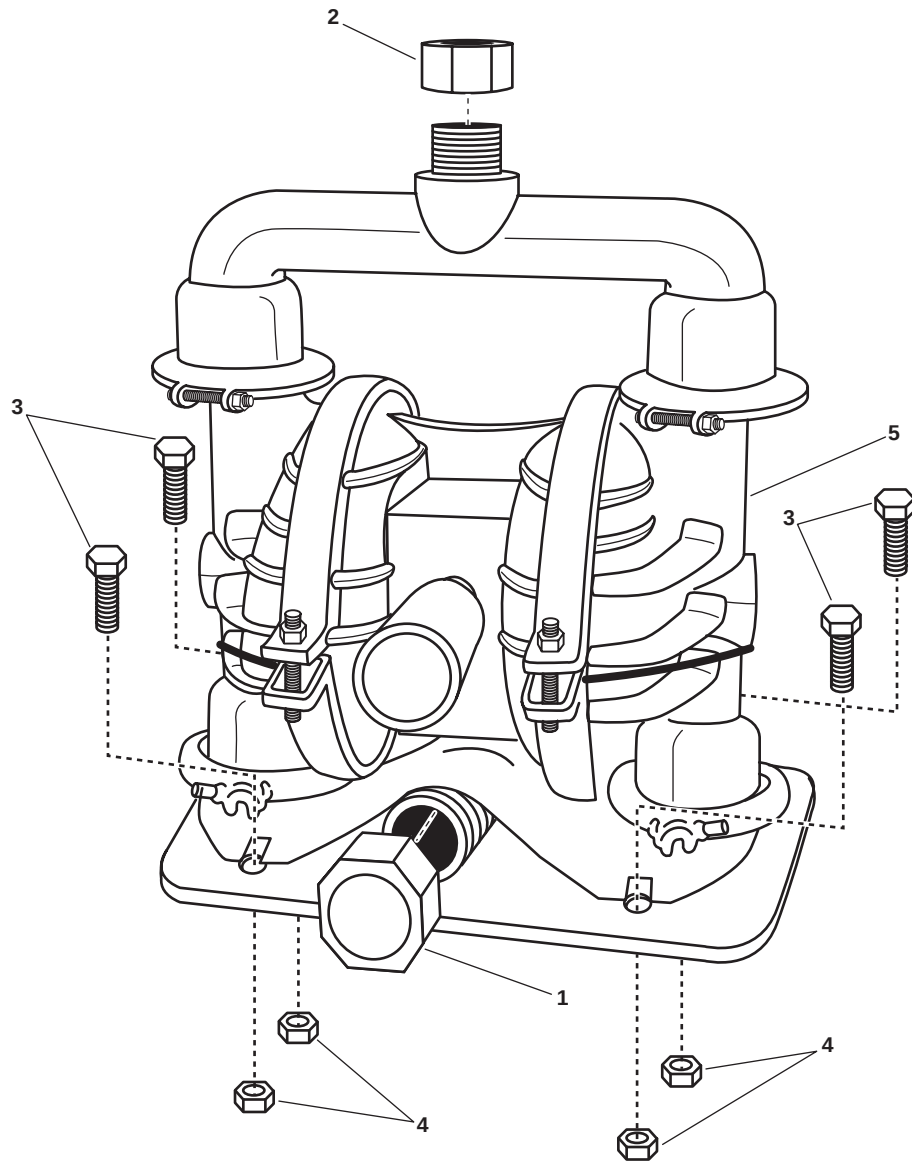

Figure 1. Oily Bilge Pump
2. Place a suitable drain pan under the inlet union (figure 1, item 1).
3. Using two wrenches, loosen the inlet union (figure 1, item 1) and allow the oily water to drain.
4. Using two wrenches, loosen the outlet union (figure 1, item 2) and allow the oily water to drain.
5. Remove the inlet union (figure 1, item 1) and the outlet union (figure 1, item 2) from the vessel's piping.
6. Remove the four bolts (figure 1 item 3) and four nuts (figure 1, item 4) that secure the pump (figure 1, item 5) to the foundation.
7. Remove the pump (figure 1, item 5).
1. Install the pump (figure 1, item 5) to the foundation, securing it with the four bolts (figure 1 item 3) and four nuts (figure 1, item 4). Do not tighten the bolts and nuts at this time.
2. Using two wrenches, install the inlet union (figure 1, item 1).
3. Using two wrenches, install the outlet union (figure 1, item 2).